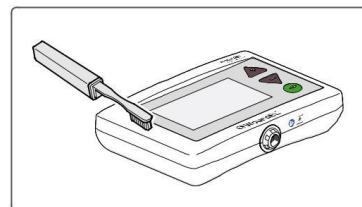

Figure 34. Detach visible dirt with a suitable tool
2. Carefully detach visible dirt from the WoundEL® device and/or the connection sockets mechanically using a suitable tool (e.g. a soft brush), *see Figure 34*.